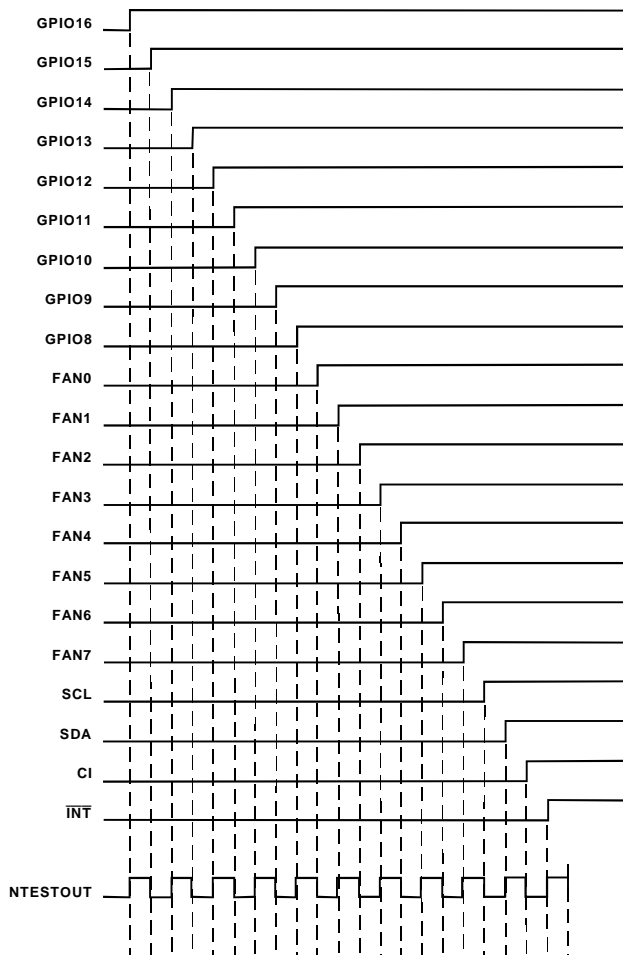

Figure 23. NAND Tree Test Taking Inputs High In Turn
1. Start with all inputs low and take them high in turn, starting with the input nearest to NTEST_OUT (GPIO16/ $\overline{\text{THERM}}$) and working back up the tree to the input furthest from NTESTOUT (INT). This should give the characteristic output pattern shown in Figure 23, with NTESTOUT toggling each time an input is taken high.